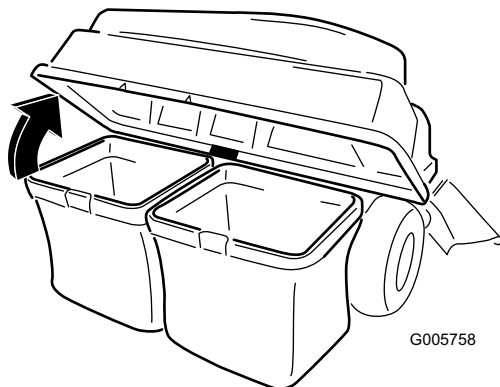

Figure 18
3. Open (raise) the bagger top (Figure 18).